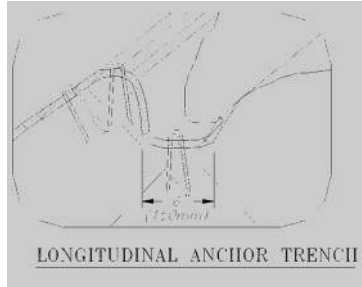

Fig. 1A
- B. Begin at the top of the slope by anchoring the blanket in a 6" deep x 6" wide trench parallel to flow (along the contour). Backfill and compact the trench after installing fasteners (Figs. 1A & 1B).